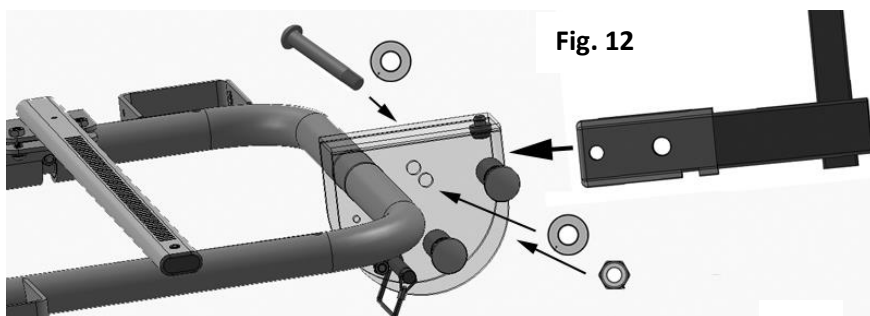

Fig. 12
**Per Fig. 12:** Retract the rear spring pin and insert the hitch tube into the folding bracket. Align the small hole of the folding bracket with the small hole of the square tube. After inserting, the rear spring pin will drop into the large hole in the square tube.
Per Fig. 12 and 13